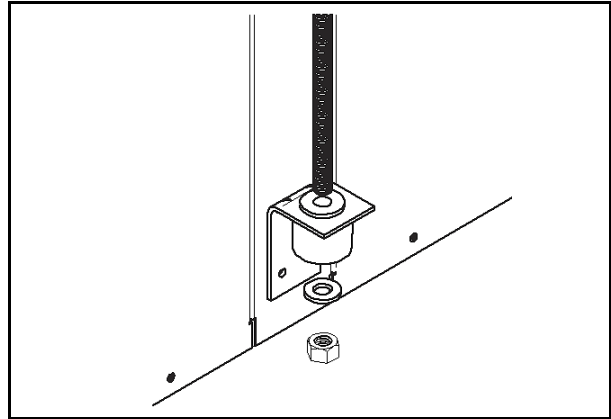

Fig. 10 Attaching a Threaded Rod to a Mounting Bracket
3. Install rubber grommet onto the brackets as shown in Fig. 10.
4. Hang the unit and assemble the field-provided threaded rod, nuts, and washers on to the brackets as shown in Fig. 10.